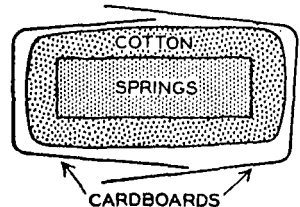

Fig. 25. Use cardboards to slip padded cushion into cover.
**Insert Padded Unit in Cover.** Place unit with front edge away from you inside overlapped cardboards as in figure 25. Overlap cardboards on top and bottom of unit. Tie them in place. Then roll muslin or outside cover back, slipping it over front of the padded unit. Unroll cover, letting it come up over cardboards. Then cut string and carefully remove one cardboard at a time.